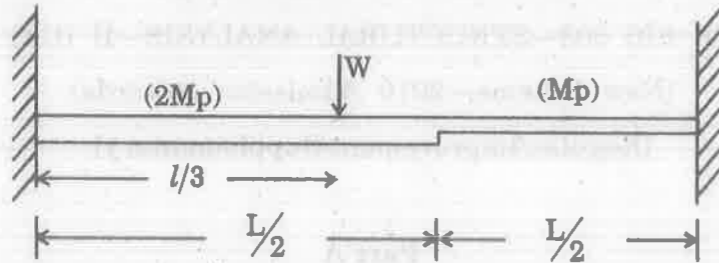

Fig. 1
11. Determine Collapse load in fixed beam shown in Fig. 1.